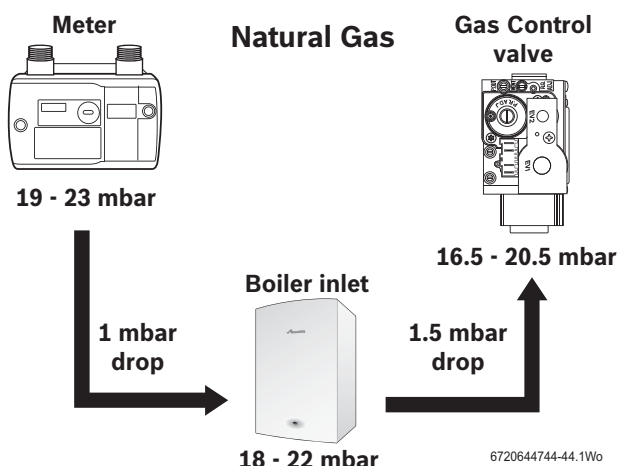

Fig. 44 Natural gas pressures
- Press performance test button (L) for more than ten seconds and set Central Heating temperature to maximum.
- The performance test button (L) will illuminate continually and the blue power indicator will pulse five times.
- ▶ Check the gas supply working pressure at the gas valve conforms to values shown in figures 44 or 45.